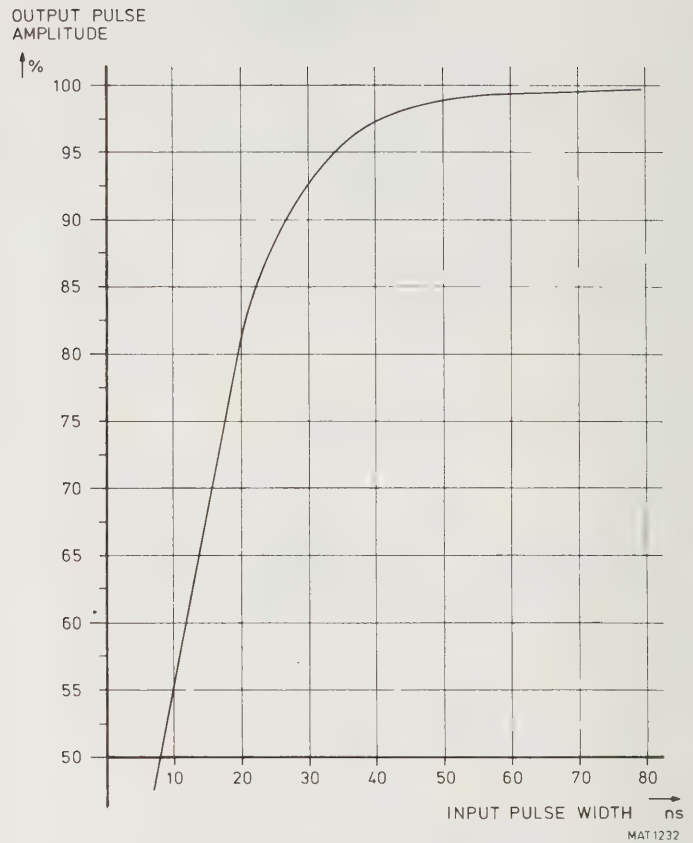

Fig. 4.7. Peak detector input pulse width vs output pulse amplitude (typical)
- glitch detection. (Glitches with a pulse width of 10 ns are still caught with an amplitude of 50% see Fig. 4.7.).